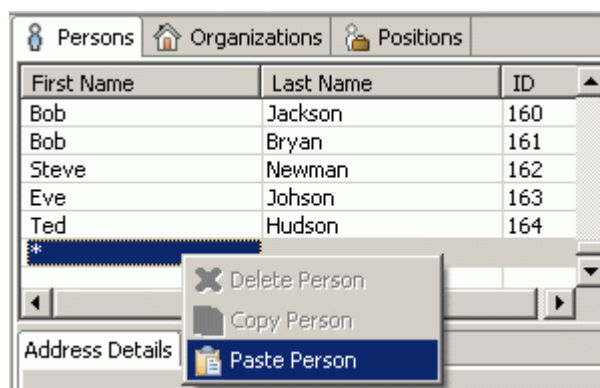

Figure 2. Context sensitive menu in Persons panel, Paste Person
- Right click on the auto row (cell with an asterisk) at the bottom of the table list. A context sensitive menu appears (Figure 2).